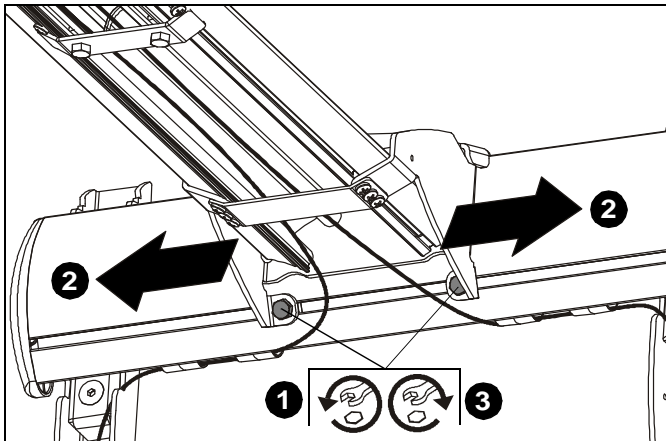

Figure 40
1. Loosen two 1/4-20 x 5/8" hex head cap screws (E) on underside of mounting bracket. (See Figure 40)
2. Adjust projector arm laterally to desired position. (See Figure 40)
3. Tighten two 1/4-20 x 5/8" hex head cap screws loosened in Step 3. (See Figure 40)